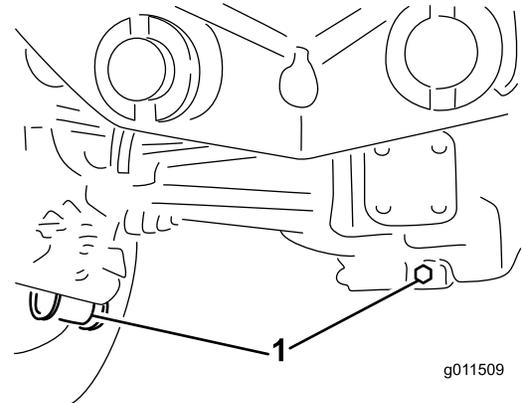

Figure 95
2. Clean the area around the 3 drain plugs; 1 on each end and 1 in the center (Figure 95).